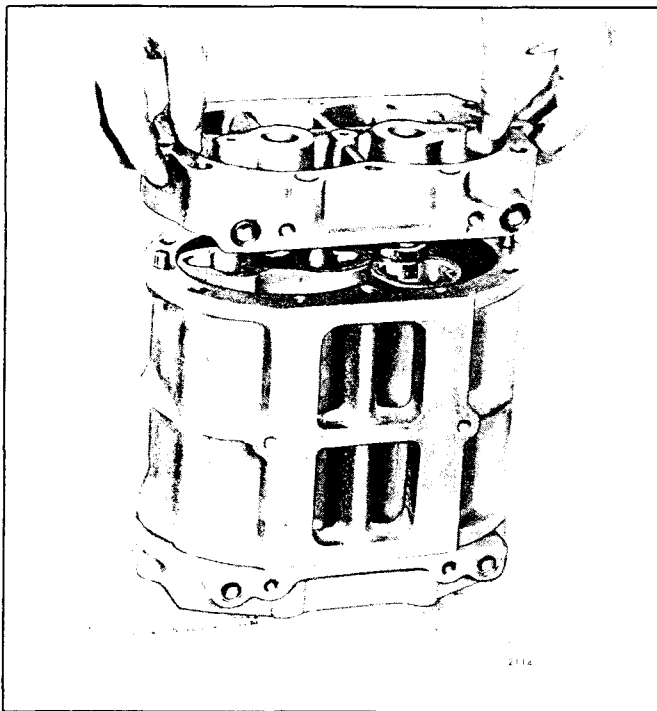

Fig. 12 - Installing Rear End Plate
5. Place the rear end plate over the rotor shafts (Fig. 12). On the former blowers, be sure that the ring type oil seals are properly positioned on the rotors. Then secure each end plate to the 3-53 blower housing with two end plate retaining screws and two cover